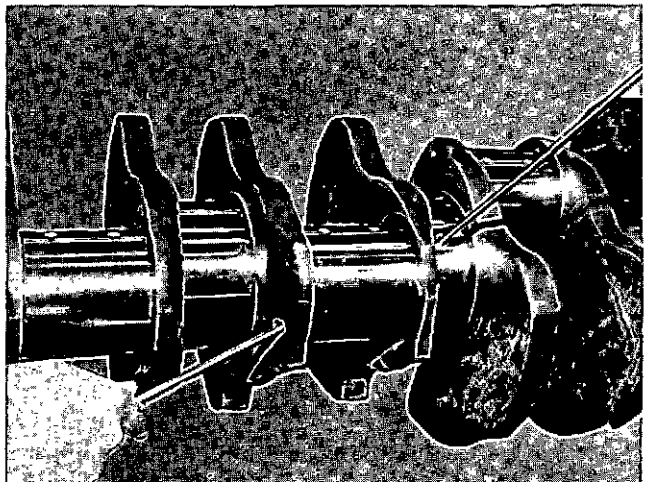

Fig. 1-4-3, V40141. Cleaning drilled oil passages
2. Clean all drilled oil passages in crankshaft with a rod and rag as if cleaning a rifle barrel; flush to remove sludge. Fig. 1-4-3.
4. Regrind crankshaft to undersize and hold to specifications shown in Fig. 1-4-3 as noted in the following steps.